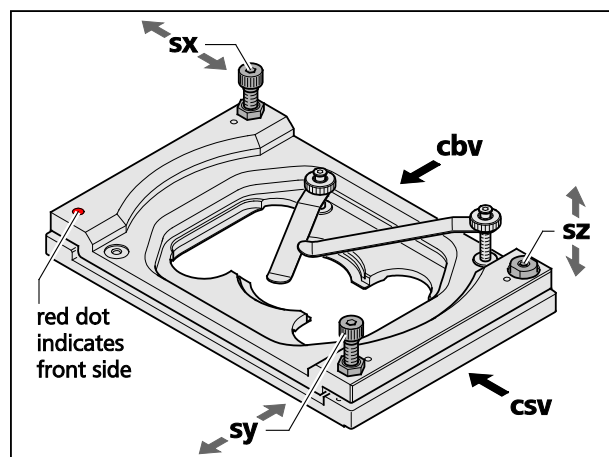
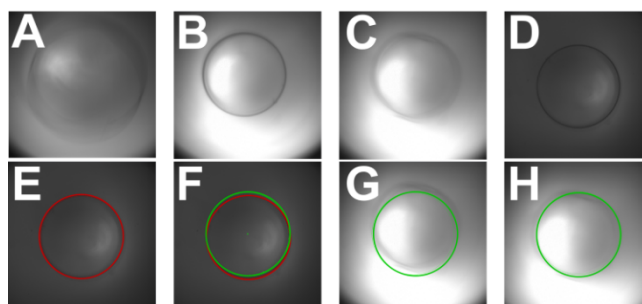
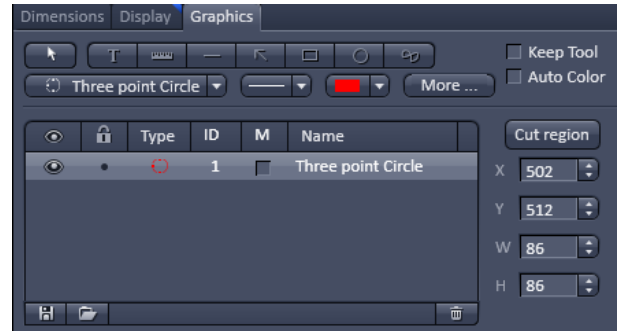

Fig. 11 Adjustable sample holder – schematic view
Fig. 12 Focus control in reflection
Fig. 13 Graphics tool – three point circle at position X=502 and Y=512
2. Draw fiber plug of X-Cite completely out from the X-Cite casing. Start acquisition. The image will be dark since fiber was pulled out. Put fiber back and slowly move in until you will see a coarsely adjusted image to have sufficiently reduced light levels you can work with (Fig. 12/**A**). (Note: with the fiber all in, the lamp is simply too bright leading to oversaturation of the camera). If the illumination is far from being centric, the sample is already strongly tilted and it is recommended to do a pre-adjustment. To this end adjust the edges of the clefts viewed from the right side (Fig. 11/**csv**) and back side (Fig. 11/**cbv**) to be parallel using screws **sy** and **sx**, respectively (Fig. 11). The cleft's width should be approximately 2 mm as preset by the factory, but can be adjusted with screw **sz** if needed.
3. Now pull (or push) fiber on the ELYRA site until the dark ring, which is already faintly visible in its contours, appears focused (Fig. 12/**B**). Dependent on the sample the focus could look worse, especially when the reflecting planes are wavy or you get reflection from different planes (Fig. 12/**C**).
4. Move in 10x objective and focus the already visible ring with the z-drive of the stand. The ring appears now well focused as long as the sample is not completely unsuitable (Fig. 12/**D**)
5. Mark the Ring with a ROI from the **Graphics** tool (3 point-circles will work best) (Fig. 12/E and Fig. 13).
7. Draw a new circle with the same diameter in the original image with the new coordinates (Fig. 12/F). The old circle is not necessary anymore and can be switched off or deleted (Fig. 12/G).
8. Turn nosepiece back to free position. Then level stage by turning the screws of the sample holder (Fig. 11/sx & sy) until the more or less focused circle of the fiber overlaps with the ROI-circle (Fig. 12/H).